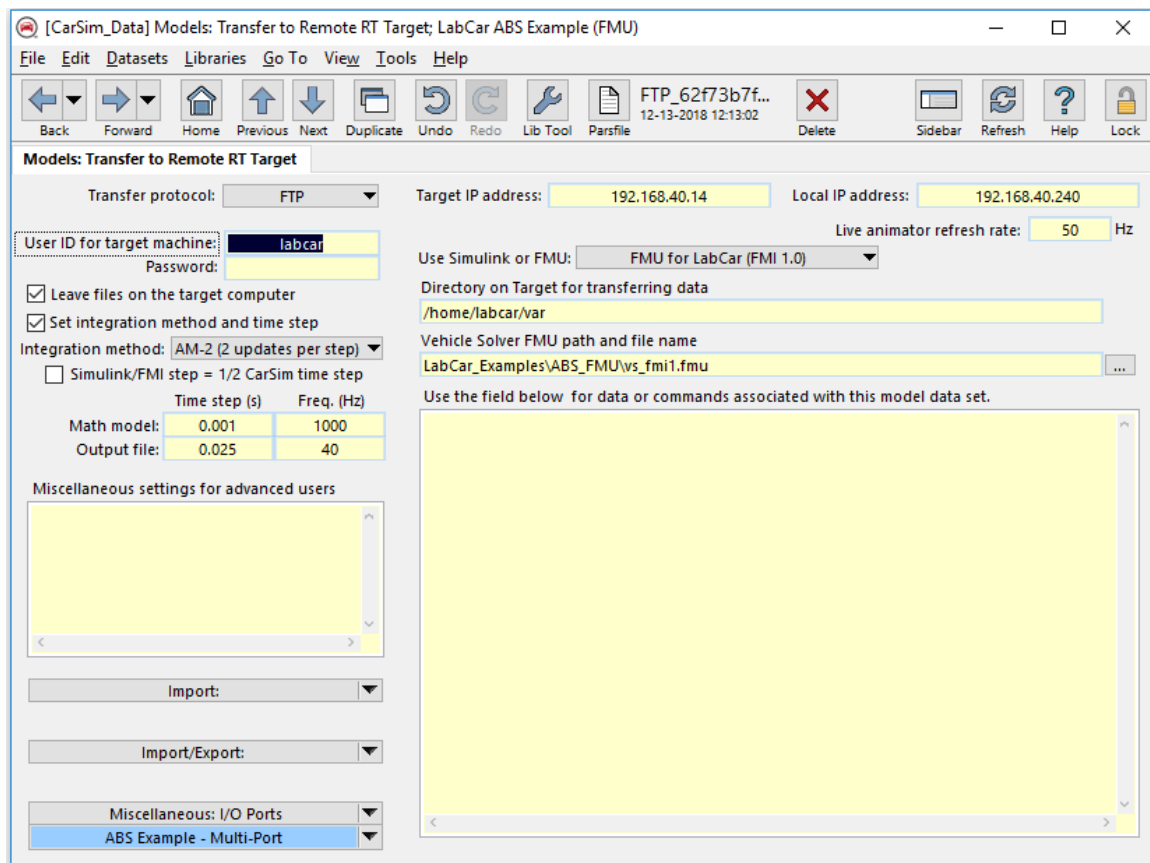

Figure 28. FMU model screen settings.
- Click the model blue link LabCar ABS Example (FMU) to go to Models: Transfer to Remote RT Target dataset screen (Figure 28). In **Use Simulink or FMU** pull down menu, select FMU for LabCar (FMI 1.0). In **Vehicle Solver FMU path and file name**, enter